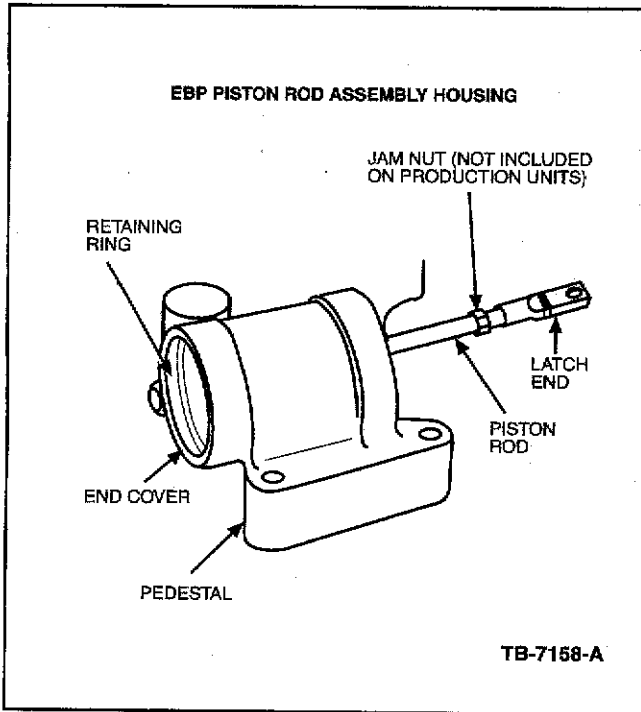

Figure 4 - Article 03-14-10
4. Unscrew the latch end (and jam nut, if equipped) from the piston rod. Hold the piston rod securely while unscrewing the latch end because it is crimped to the piston rod (Figure 4).